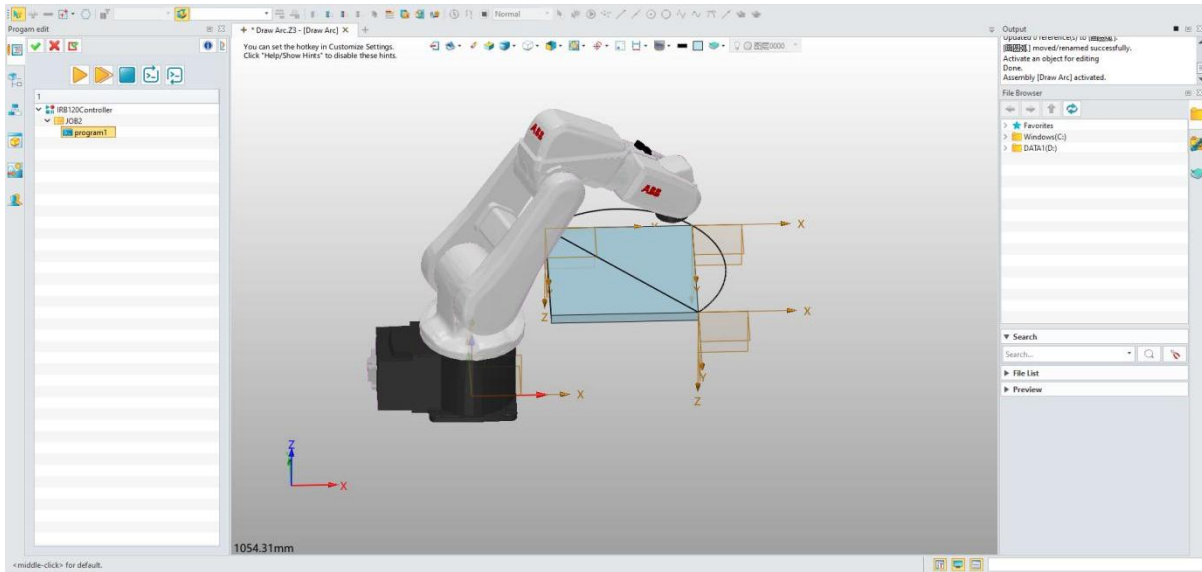

Figure 9-17: Simulation Verification
- **Analyzing the Motion:** Observe the robot's movement during the simulation and compare it to the desired outcome. Pay close attention to the robot's path, speed, and overall behavior. (Figure 9-17)